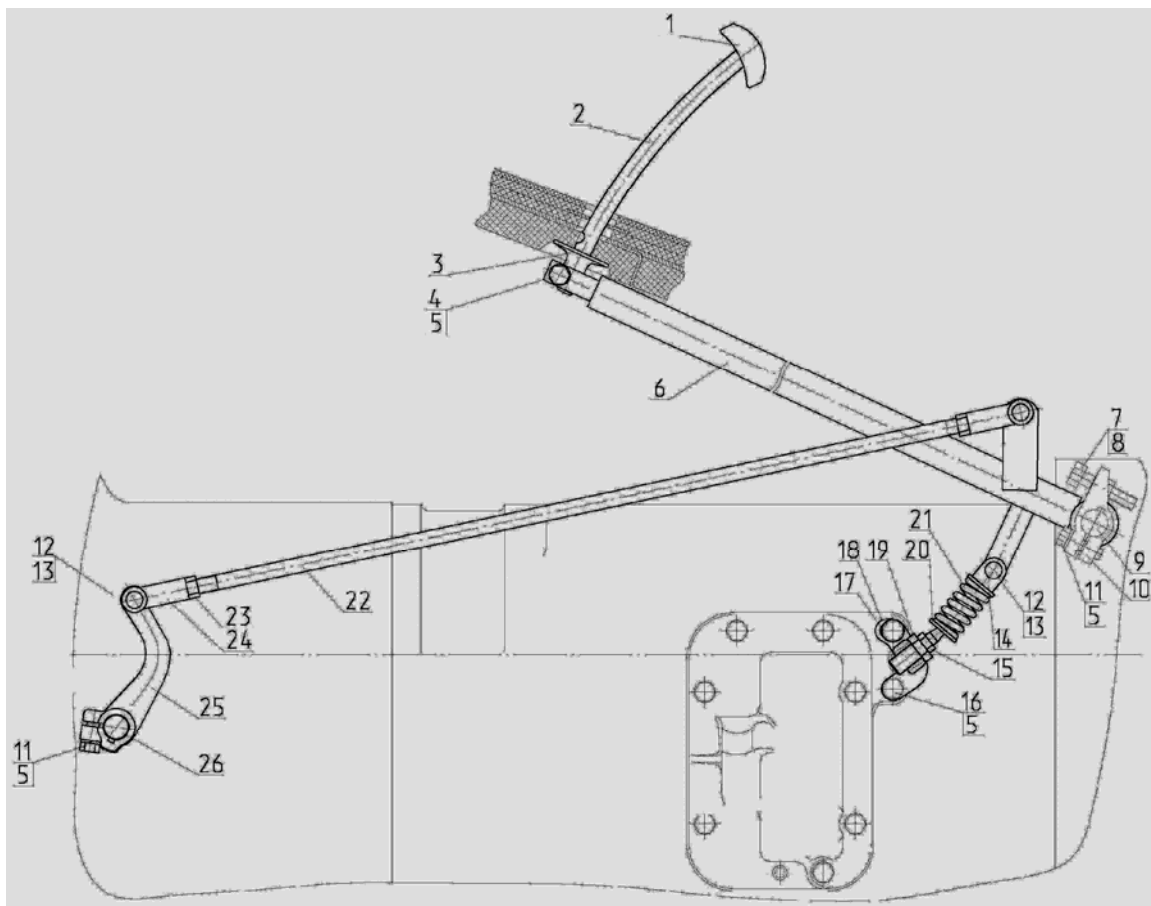

Figure 4.7 Clutch control
- a) unscrew bolt 4 (Figure 4.7), remove rod 2 and strap 1;
- d) remove washer (20) and spring (21);
- f) remove arm (18), having unscrewed two bolts (16);
- g)) remove thrust (14) from pedal (6), having pulled out pin (13);
- h) remove lever (25), having unscrewed bolt (11);
- i) remove lever (10) from roller (9), having unscrewed bolts (7), (11);
- j) remove pedal (6) from roller (9).